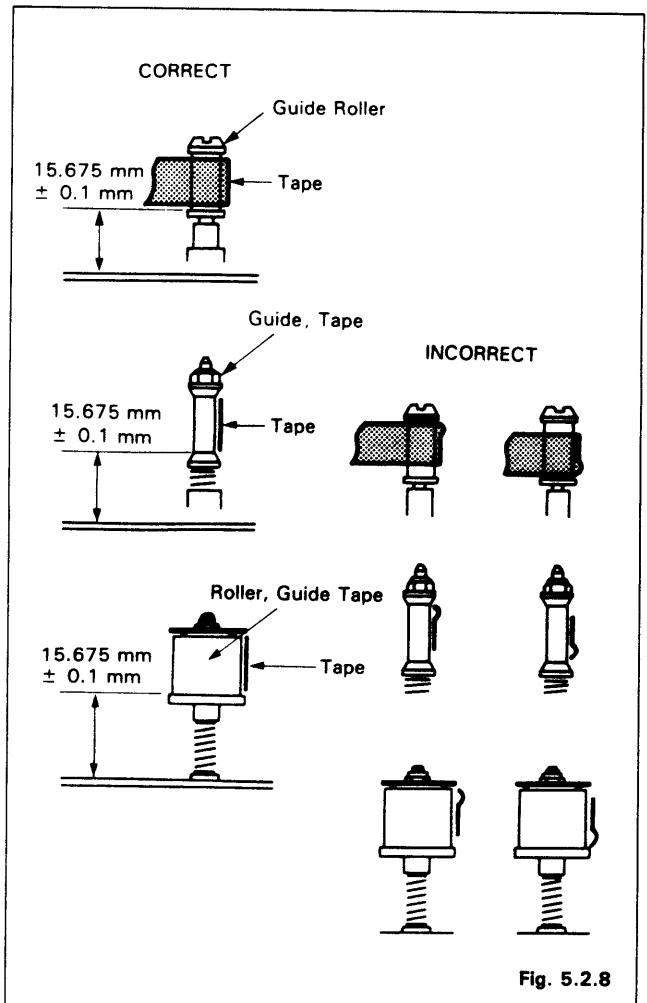
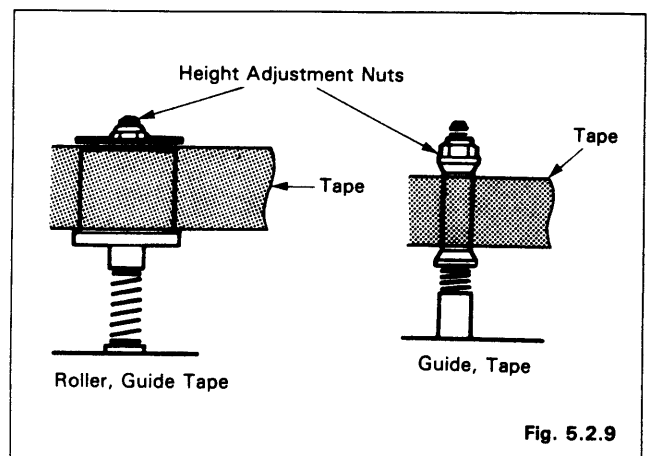

Fig. 5.2.8
Fig. 5.2.9
5. During loading, play and unloading, observe the tape at the supply and take-up guide rollers, tape guide and tape guide roller. Confirm that there is no curling or creasing, etc., as shown in Fig. 5.2.8.
6. If any curling or defects are noted, adjust tape guide roller and tape guide first. Adjust the height adjustment nut so that the tape runs as shown in Fig. 5.2.8. (Refer to Fig. 5.2.9)
Adjust the height by turning the driver slightly so that the tape runs on the guide roller as shown in Fig. 5.2.8, and the lower edge of the tape runs along the lead surface of the cylinder.